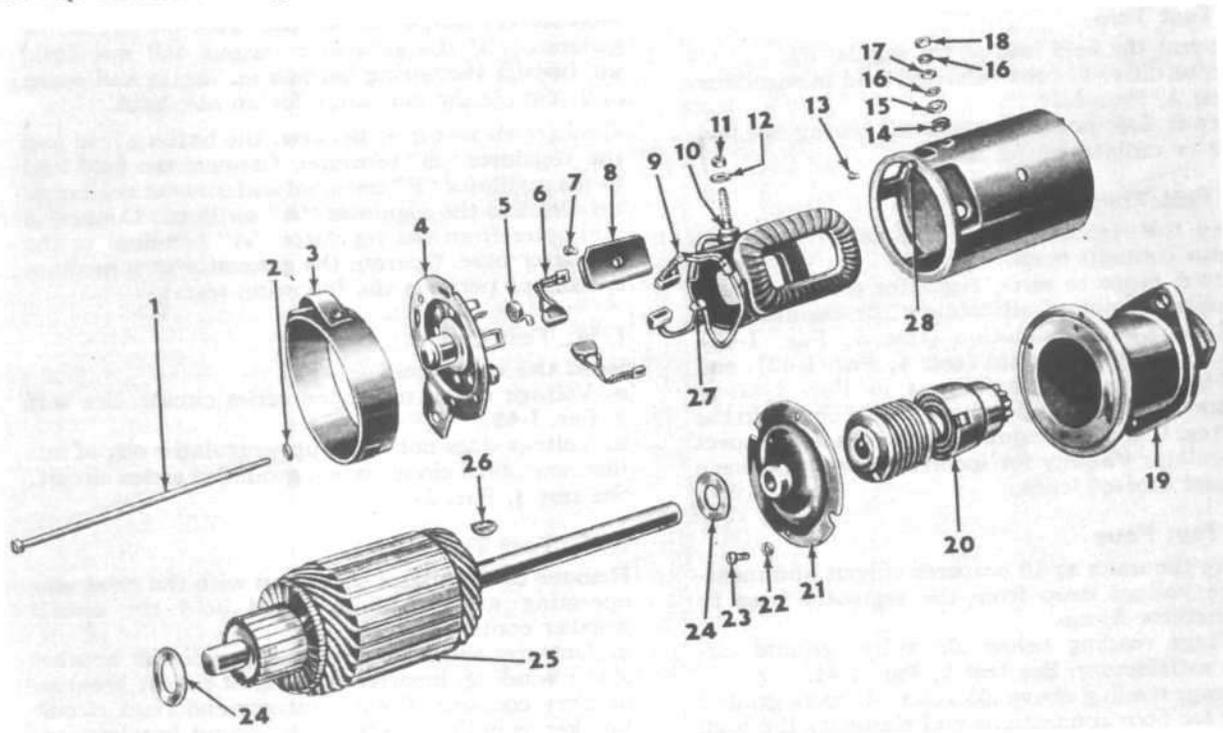

FIG. 169—TYPICAL STARTING MOTOR
Fig. 169 illustrates the Model 4-63 starting motor, the internal construction of which is representative of all the motors used on the models discussed here. There are some differences in starting switch control and flywheel drive mechanism which are covered separately. Also, the 12-volt starting motor has no band cover, item 3.